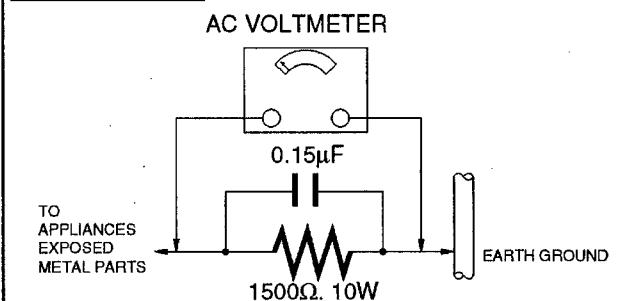

Figure. 1
## LEAKAGE CURRENT HOT CHECK (See figure 1.)
- Connect a 1.5k ohm, 10 watts resistor, in parallel with a 0.15 micro farad capacitor, between each exposed metallic part on the set and a good earth ground, as shown in figure 1.